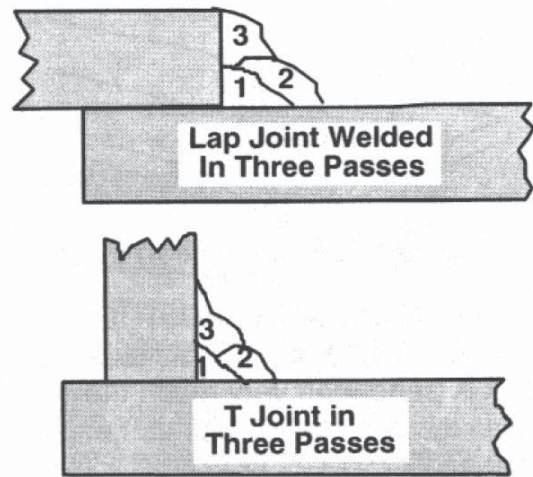

Figure 17. Fillet Weld Joints
**Fillet Weld Joints.** Most fillet weld joints, on metals of moderate to heavy thickness, will require multiple pass welds to produce a strong joint. The illustrations in Figure 17 show the sequence of laying multiple pass beads into a T fillet joint and a lap fillet joint.